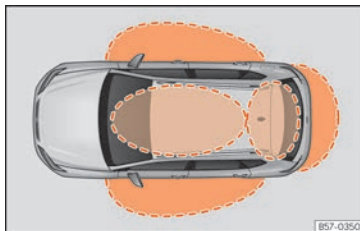
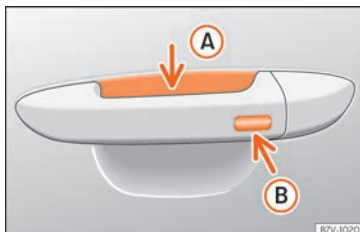

Fig. 78 Keyless Access: proximity zones.
Fig. 79 Door handle: sensor surfaces
» Fig. 79
Keyless Access is a key-free locking and ignition system to unlock and lock the vehicle without actively using its key. To do this, all that is required is to have a valid vehicle key in the detection area where you are attempting to access the vehicle »» Fig. 78 and to touch one of the sensor surfaces on the door handles »» Fig. 79 or operate the *softtouch*/handle on the rear lid »» page 106 »» ❶.
If a valid key is in the proximity of the car, »» Fig. 78 the Keyless Access locking and starting system gives the key entry as soon as one of the sensor surfaces on the door handles is touched or the *softtouch*/handle on the rear lid is operated.
- Grip one of the front door handles. When you do this, you touch the sensor surface »» Fig. 79 ❶ (arrow) of the handle and the vehicle unlocks.
- Touch (once) the locking sensor surface »» Fig. 79 ❷ (arrow) on one of the front door handles. The door that is used must be closed.
- Touch (once) the sensor surface »» Fig. 79 **B** (arrow) on one of the front door handles. The vehicle locks with the “Safe” security system »» page 101. The door that is used must be closed.
- Touch (twice) the sensor surface »» Fig. 79 **B** (arrow) of one of the front door handles to lock the vehicle without activating the “Safelock” security system »» page 101.
When the vehicle is locked, the rear lid automatically unlocks on opening if there is a valid vehicle key in the proximity zone »» Fig. 78.
- Push the central locking button  on the remote control and touch the locking sensor surface of the driver door handle »» Fig. 79 **B** within the following 5 seconds. Do not grasp the door handle; otherwise the vehicle will not unlock. Deactivation is also possible if the vehicle is locked through the driver's door lock.
To close all the electric windows and the sunroof using the **comfort function**, keep a finger for a few seconds on the locking sensor surface »» Fig. 79 **B** (arrow) of the door handle until the windows and roof have closed.
The sensor surfaces on the door handles could engage if hit with a water jet or high pressure steam if there is a valid vehicle key in the proximity. If at least one of the electric windows is open and the sensor surface »» Fig. 79 B (arrow) on one of the handles is activated continuously, all windows will close.